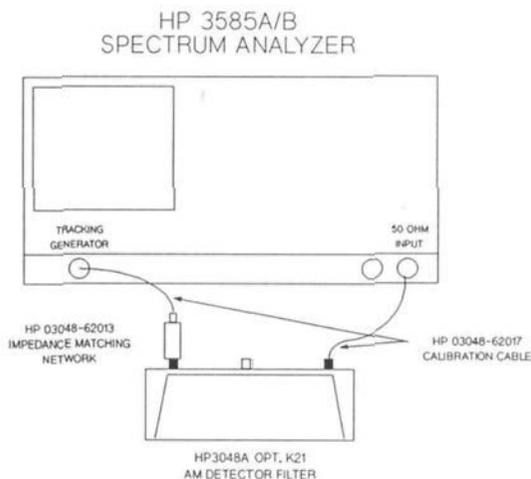

FIGURE 3-2. SETUP FOR FLATNESS TEST WITH HP 3585A/B.
7. Replace the Calibration Load with the Opt. K21 AM Detector Filter as shown in Figure 3-2.